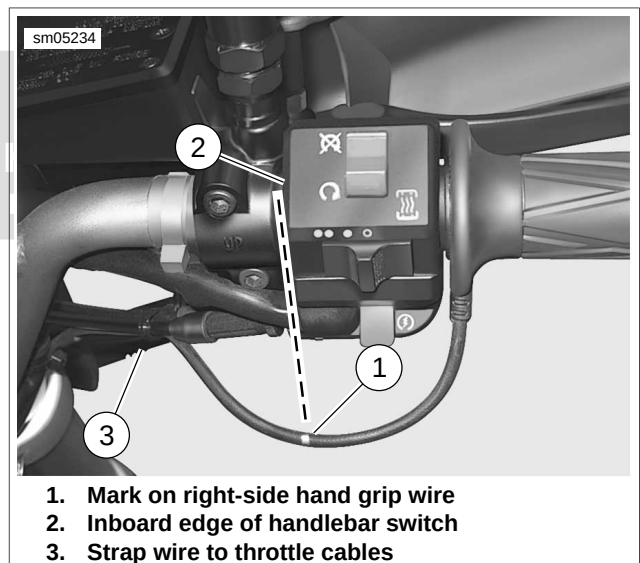

Figure 7-30. Painted Alignment Mark for Hanging Wire Loop with Cable Strap, Right Side
- See Figure 7-30. The hanging loop is critical to the life of the heated grip wire, especially on the right hand grip, as it is in motion when the bike is ridden. In order to maintain the wire loop, secure the right hand grip wire to the throttle cables.